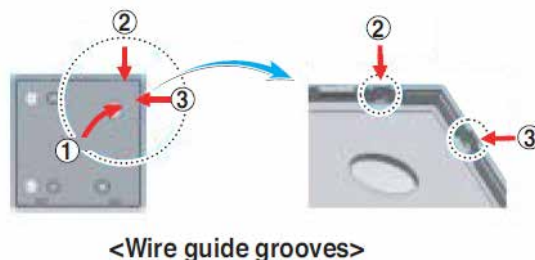

Figure 39: Attaching Remote Control Cable to Termination Points
3. Determine how the communications cable will be routed to the controller. Choose either Back, Top or Right Edge (Figure 39).